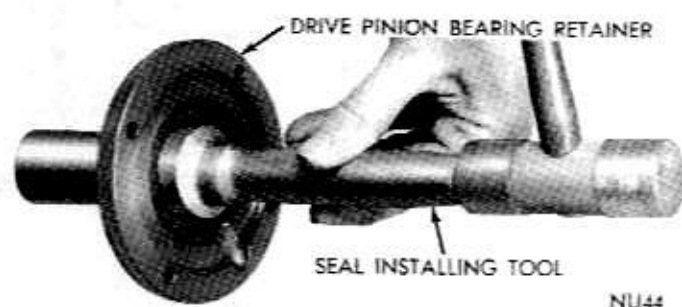

Fig. 37—Installing Seal in Drive Pinion Bearing Retainer
(31) Install the outer snap ring on the drive pinion bearing and tap the assembly back until the snap ring contacts case.
(32) Using Tool C-3789 (Fig. 37), install a new oil seal in retainer bore. Position main drive pinion bearing retainer and gasket on front of case. Coat threads with sealing compound, then install attaching bolts and tighten to 30 foot-pounds (Fig. 2).